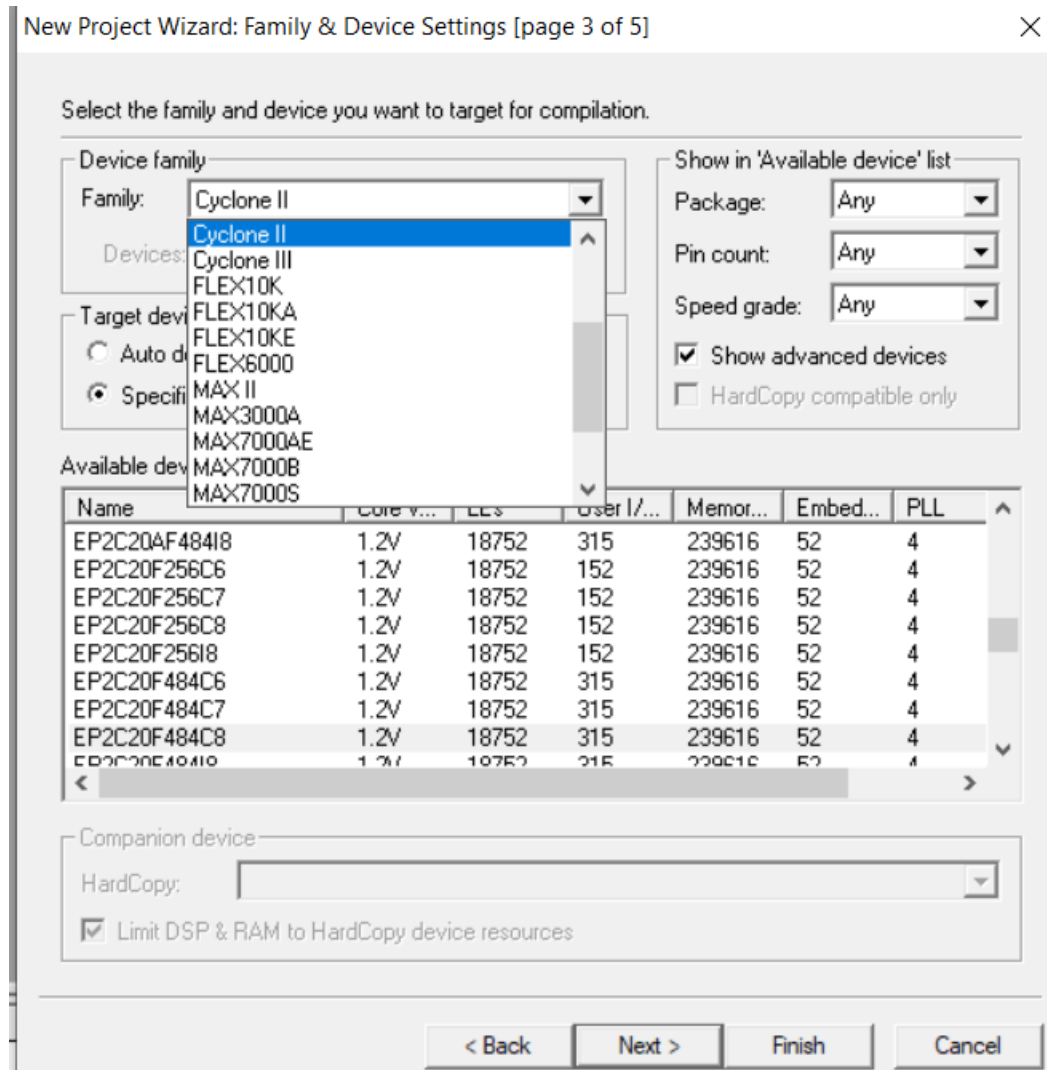

Figure 8.8: choose family and number for FPGA.
- **Step5:** In Figure 8.8, show the windows where we can choose the family of FPGA we went to use and the number of FPGA, then select Finish.